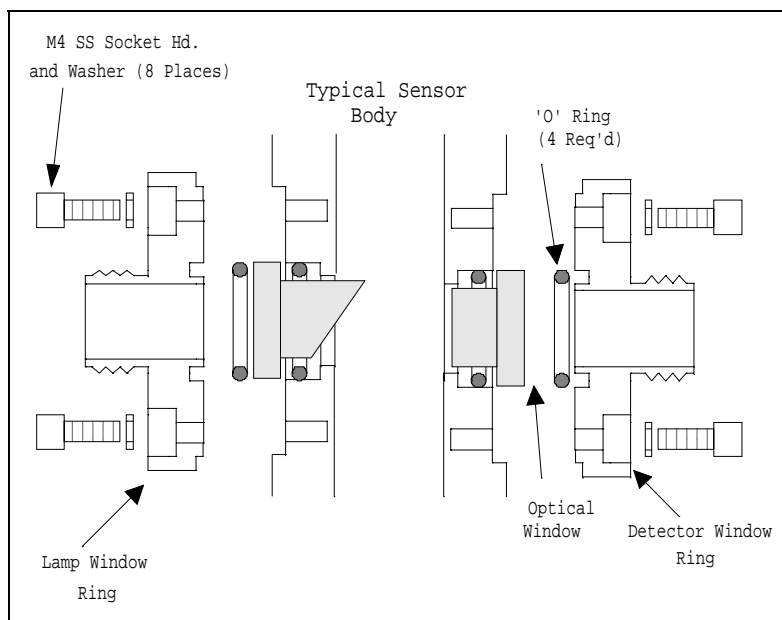

Figure 19 - Window Replacement (Exploded View)
2. Remove the socket head screws from one window ring and remove the ring (refer to figure 19).